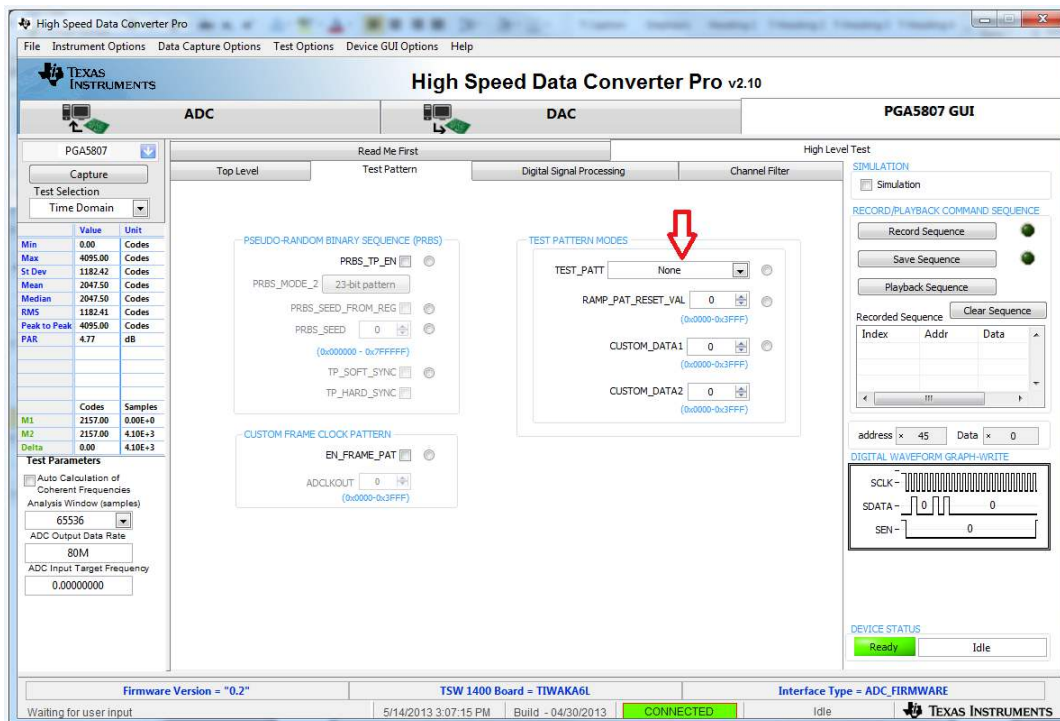

Figure 37. Turn off RAMP Test Pattern
- Reset the ADS5296 so that the RAMP test pattern is off as shown in Figure 37.